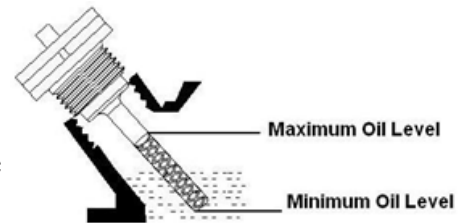

Figure 10 - Oil Fill Opening, Dipstick and Oil Level
3. Slowly add more oil and repeat step 2 until the oil mark reaches to the top of dipstick (Figure 10). Do not over fill the crankcase.